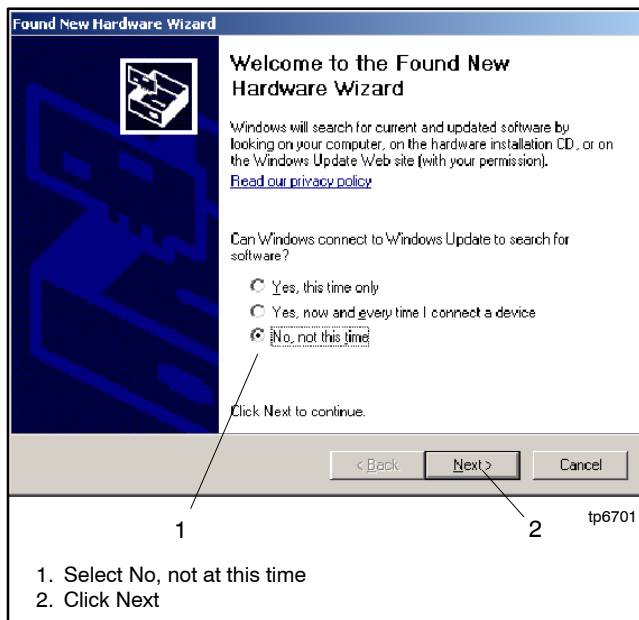

Figure 3-3 New Hardware Wizard Window 1
1. See Figure 3-3. The first window asks about searching for software. Select *No, not at this time*.